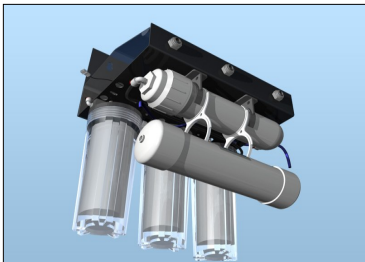

Figure 18: Step 2 - removing the DI module from the clamps
1. Disconnect the tubing from each end of the Aquathin De-ionization (DI) Module.
2. With the DI module free of its connections, it can now be removed from the two “Double C” clamps. (Figure 18). **Note the direction of the “ F L O W ” arrow. The new DI module must have the same orientation.**